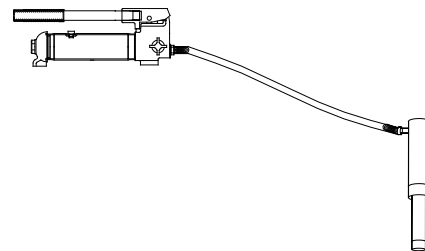

Figure 2 - Illustration to bleed air from system
1. Place pump at a higher elevation than the hose and cylinder as shown in Figure 2 below.